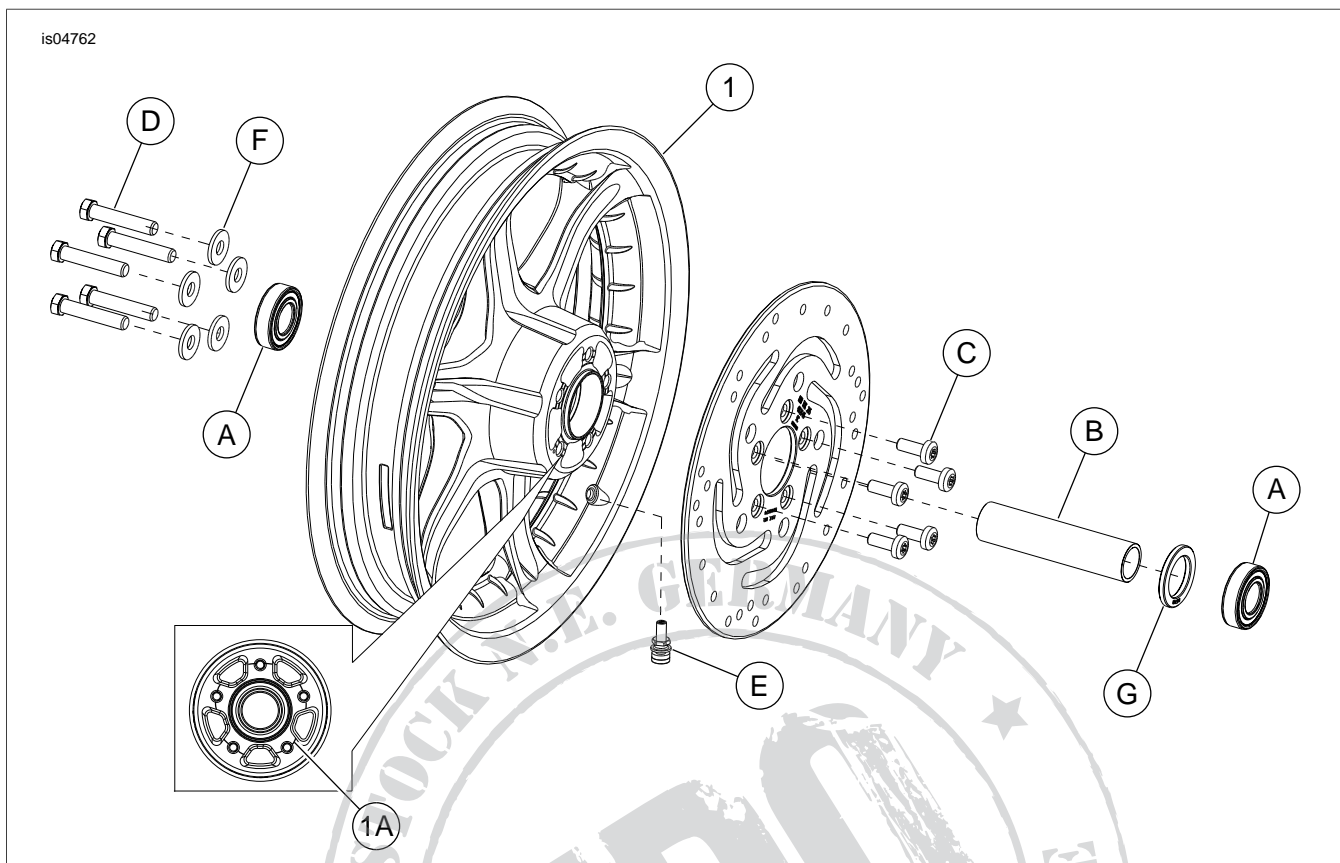

Figure 1. Service Parts: Rear Slotted Six-Spoke Wheels (16-inch Shown)
See Figure 1 and Service Parts Tables.
2. See Figure 1. Install valve stem assembly (E) on wheel. Refer to TIRES in Service Manual.